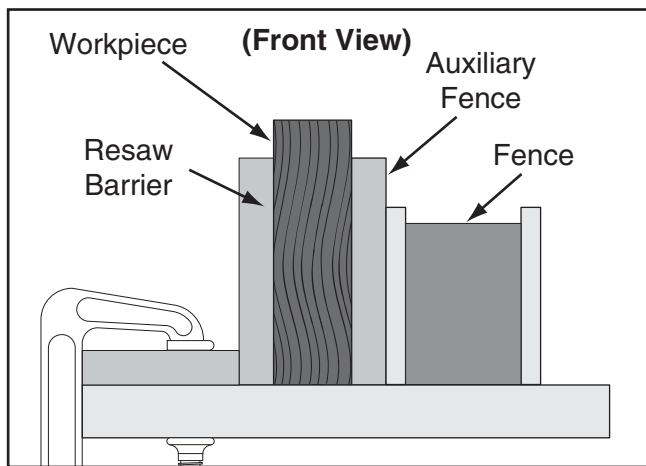

Figure 77. Ideal resaw workpiece setup.
- Place the workpiece against the auxiliary fence and slide the resaw barrier against the workpiece, as shown in **Figure 77**. Now clamp the resaw barrier to the top of the table saw at both ends.